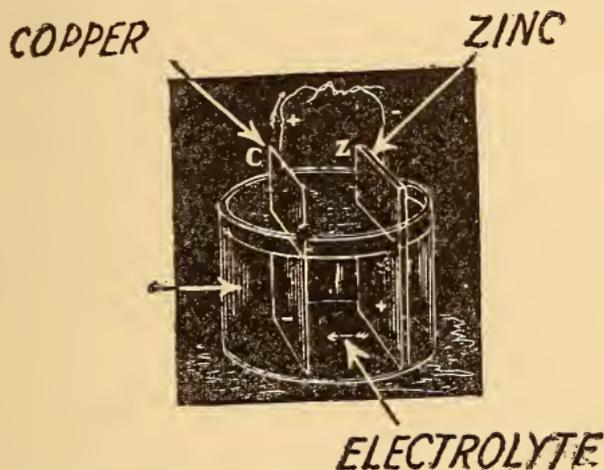

FIG. 65. A SIMPLE ELECTRIC BATTERY CELL
*storage batteries.* A battery cell of whatever kind is made up of four chief parts and these are (1) the *jar*, or containing vessel; (2) the cell liquid, or *electrolyte*; (3) the *positive element*, and (4) the *negative element*, all of which are shown in Fig. 65.
**Primary Battery Cells.**—In a primary cell the positive (+) element is made of a rod of copper (Cu) or carbon (C), usually the latter, and the nega-